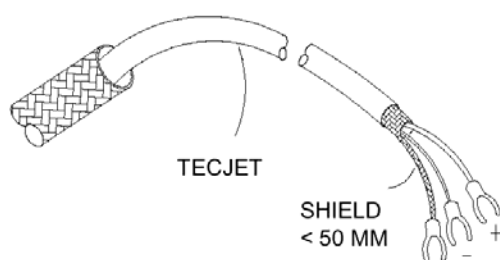

Figure 2-1. Preparing Shielded Wiring
- Use shielded wires for the signal lines to prevent interference from other electrical equipment (see Figure 2-1).
- Prepare the shielded wires as shown in Figure 2-1.